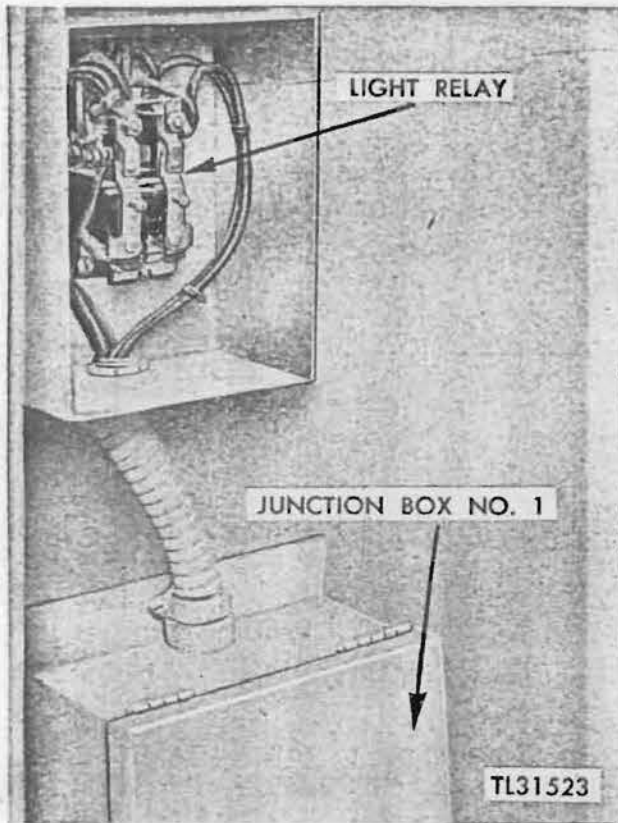

Figure 165. Light relay in power truck.
c. LOCATION. The light relay is located on the right side of Power Van K-31 above the junction box No. 1. (See fig. 165.)
(1) The relay coil. If the relay coil is warm, the heat should be distributed evenly over the coil.
(2) The connections to the relay. Feel for temperature and tightness.